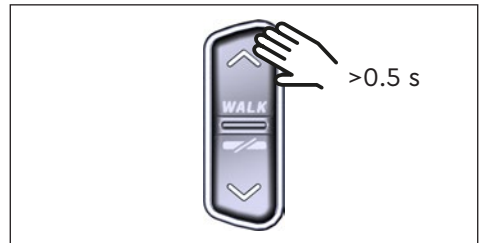

Fig. 7: Activate walk assist
- ▶ When the e-bike is at standstill, press the UP button on the Remote for longer than 0.5 s (see Fig. 7) to activate the walk assist.